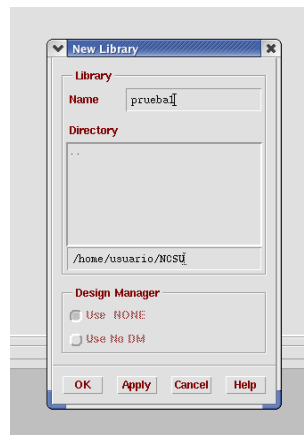

Figure 3. Create Library window.
All the libraries are managed from the Library Manager Window. It appears by default at Cadence start, and can be opened at any time by selecting **Tools>Library Manager...** from the CIW. Libraries with names starting by NCSU are design kit libraries, and contain basic components for building designs. In Fig. 3, they are:
- a) Select **File -> New -> Library**. A new window appears (see Fig. 3).